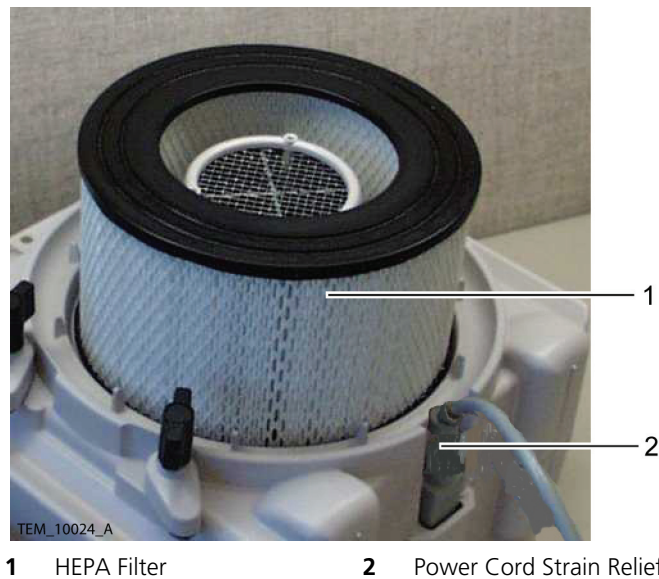

Figure 6. HEPA Filter and Power Cord Strain Relief
8. Remove the filter. See Figure 6.